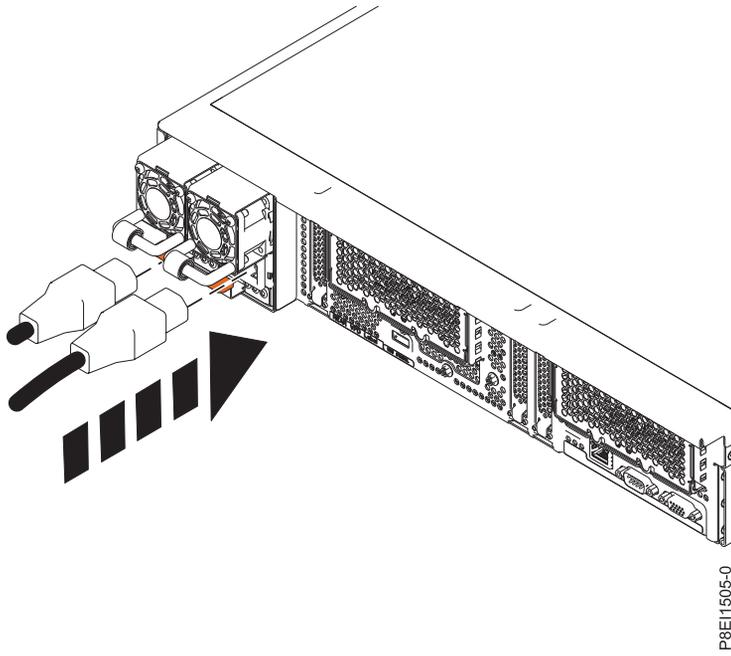

Figure 73. Connecting the power cord to the power supply
- a. Connect the power cord to the power supply. See Figure 73 on page 87.